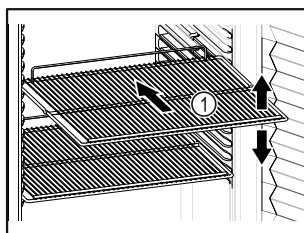

Fig. 64 Example illustration
- ❑ If there are adjustable shelves Fig. 64 (1), position them as required.